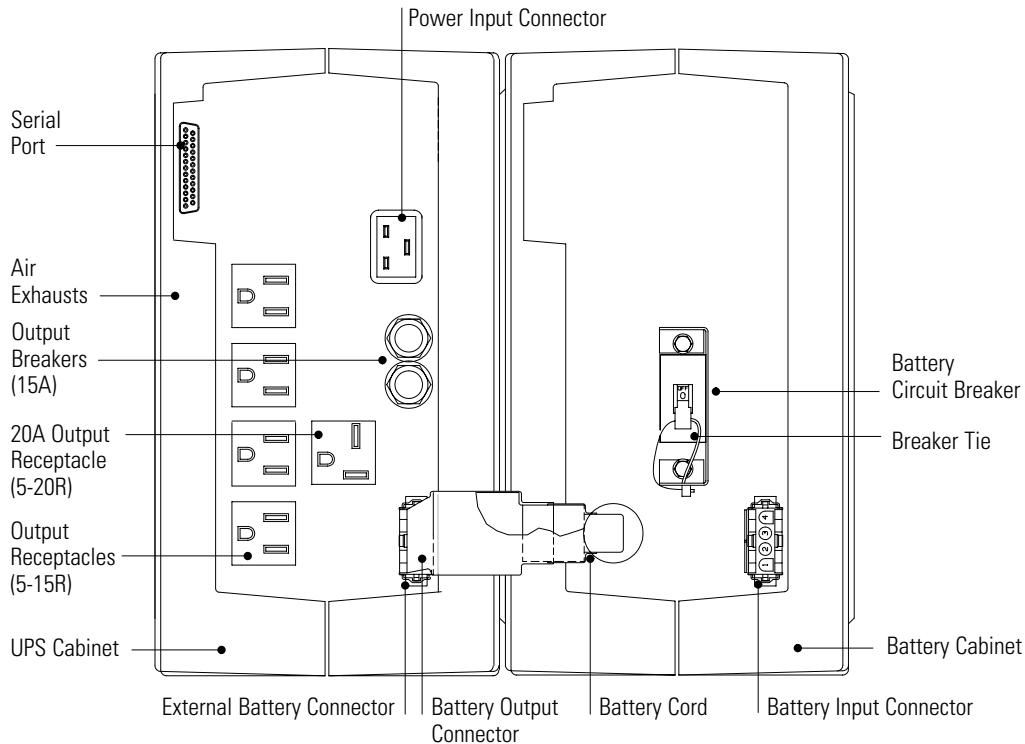

Figure 4. UPS Rear Panel
Whenever the units are not energized, verify the circuit breaker on all battery cabinets is returned to the OFF (O) position (see Figure 4 on page 30).
3. Verify the circuit breaker on all battery cabinets is in the OFF (O) position (see Figure 4).